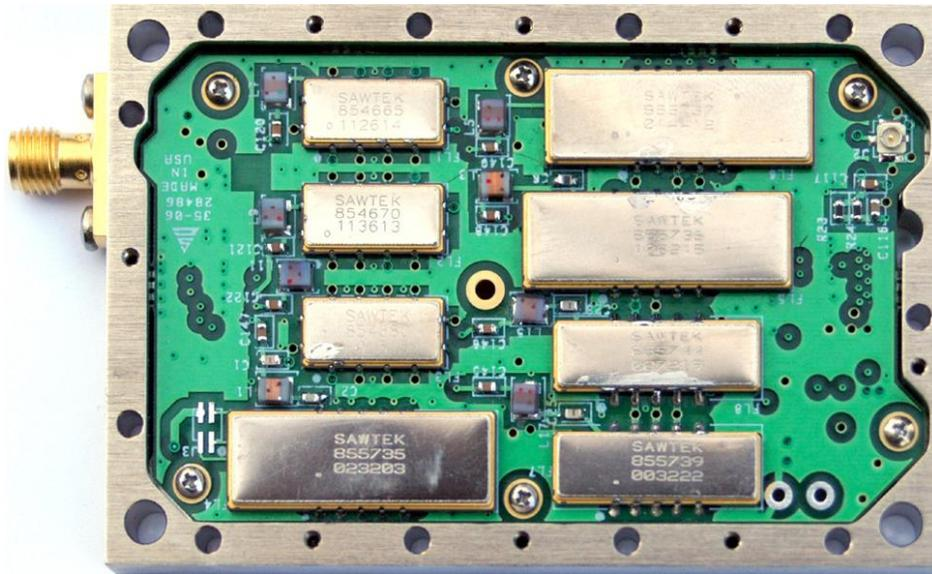
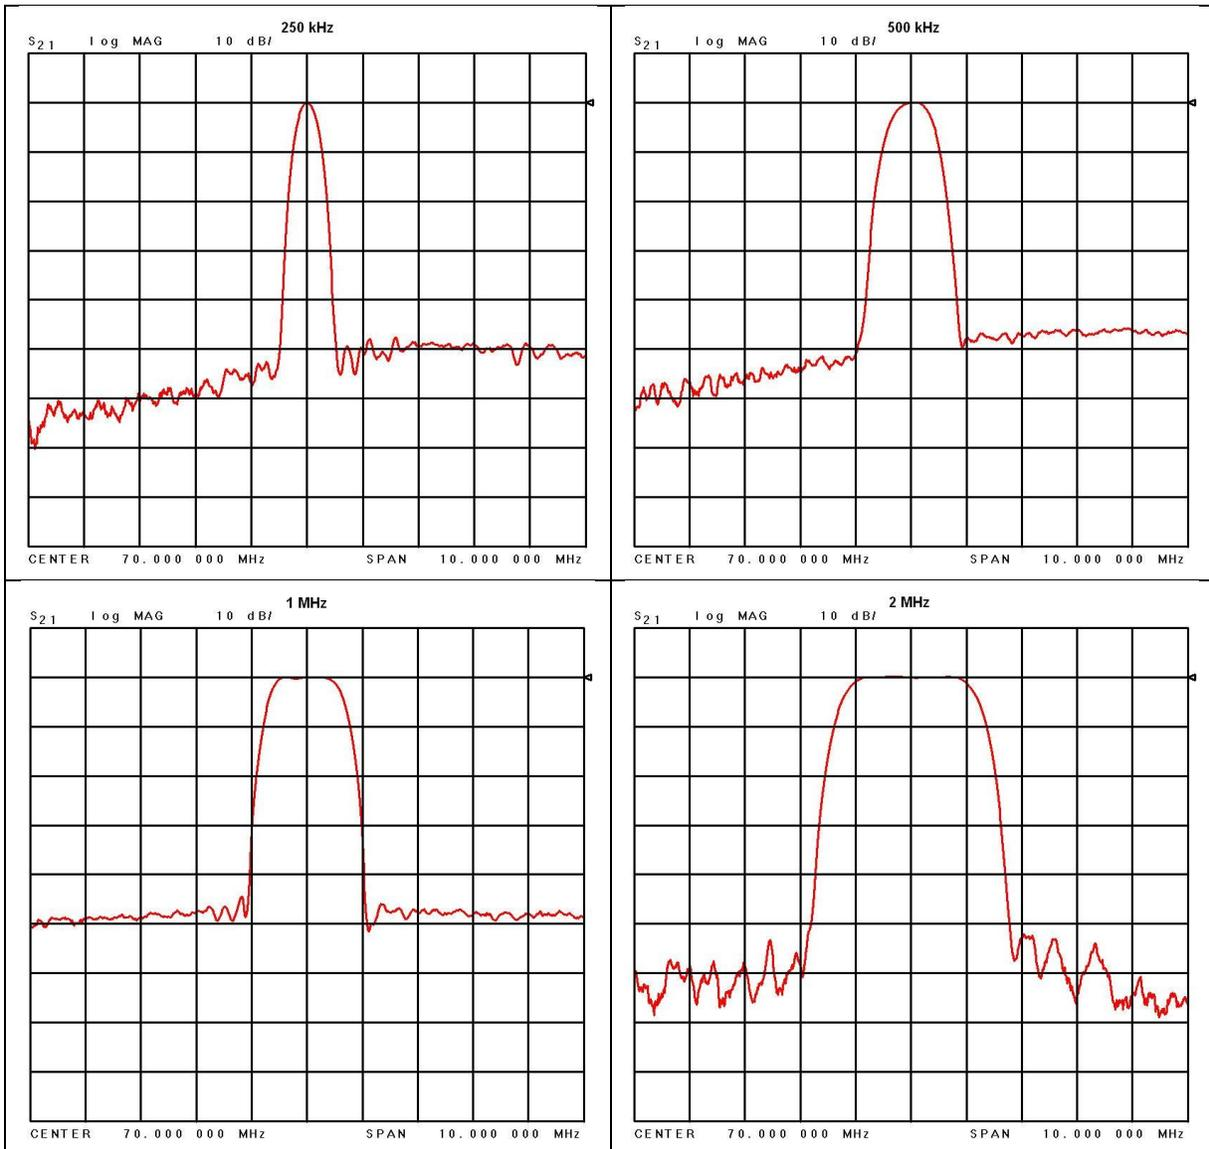
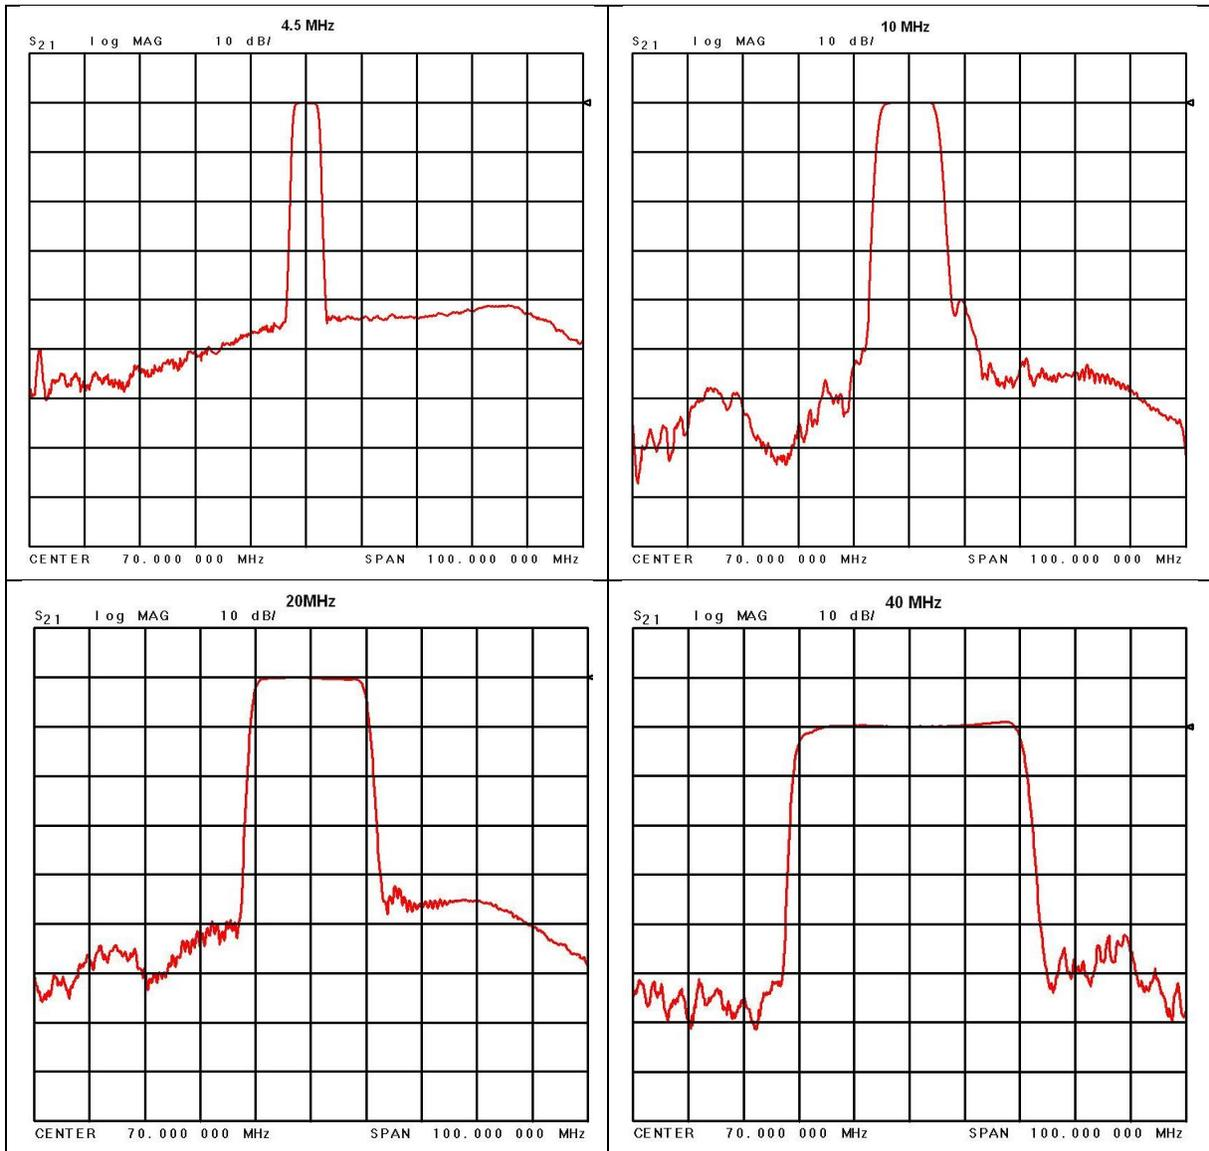

Figure 159: 70 MHz IF Module in 2" x 3" Chassis
Figure 160: 70 MHz IF Module in 2" x 3" Chassis SAW Filter Responses, Narrow Group (10 MHz Span)
Figure 161: SAW Filter Responses, Wide Group (Plotted on 100 MHz Span)
The receiver’s integrated IF filter module, shown in Figure 159, includes eight (8) SAW filters, ranging in bandwidth from 250 kHz to 40 MHz in approximately one octave steps. The standard eight filters are 250 kHz, 500 kHz, 1 MHz, 2 MHz, 4.5 MHz, 10 MHz, 20 MHz, and 40 MHz. These filters serve as anti-aliasing filters ahead of the A/D converter in the demodulator itself. In addition, they can provide an added measure of adjacent channel interference rejection. The measured responses of the eight filters are shown in Figure 160 and Figure 161 (note the change of horizontal scale between the two figures).